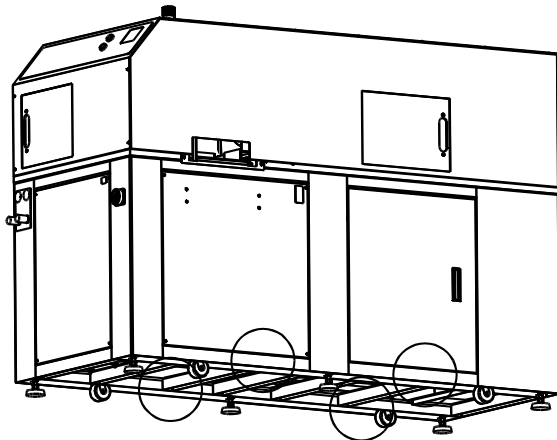

Figure 2-1. Lag Screw Locations
Remove the packing materials and the four lag screws. Lag screws are located in the frame, behind each of the lower side doors as shown in Figure 2-1.
2. Using a 9/16" wrench, remove the lag screws from the two front locations shown in Figure 2-1.
4. Remove the two rear lag screws from the two rear locations shown in Figure 2-1.